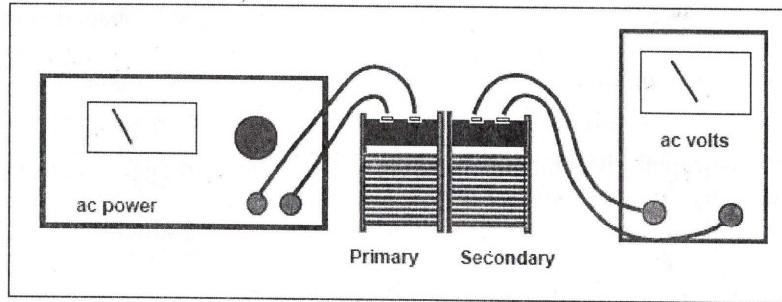

Figure 1
1. Setup the coils and core as shown in Figure 1. In the diagram, the coil to the left will be referred to as the primary coil, and the one to the right will be the secondary coil. Note that we are putting in an alternating current to the primary at one voltage level and reading the output at the secondary.